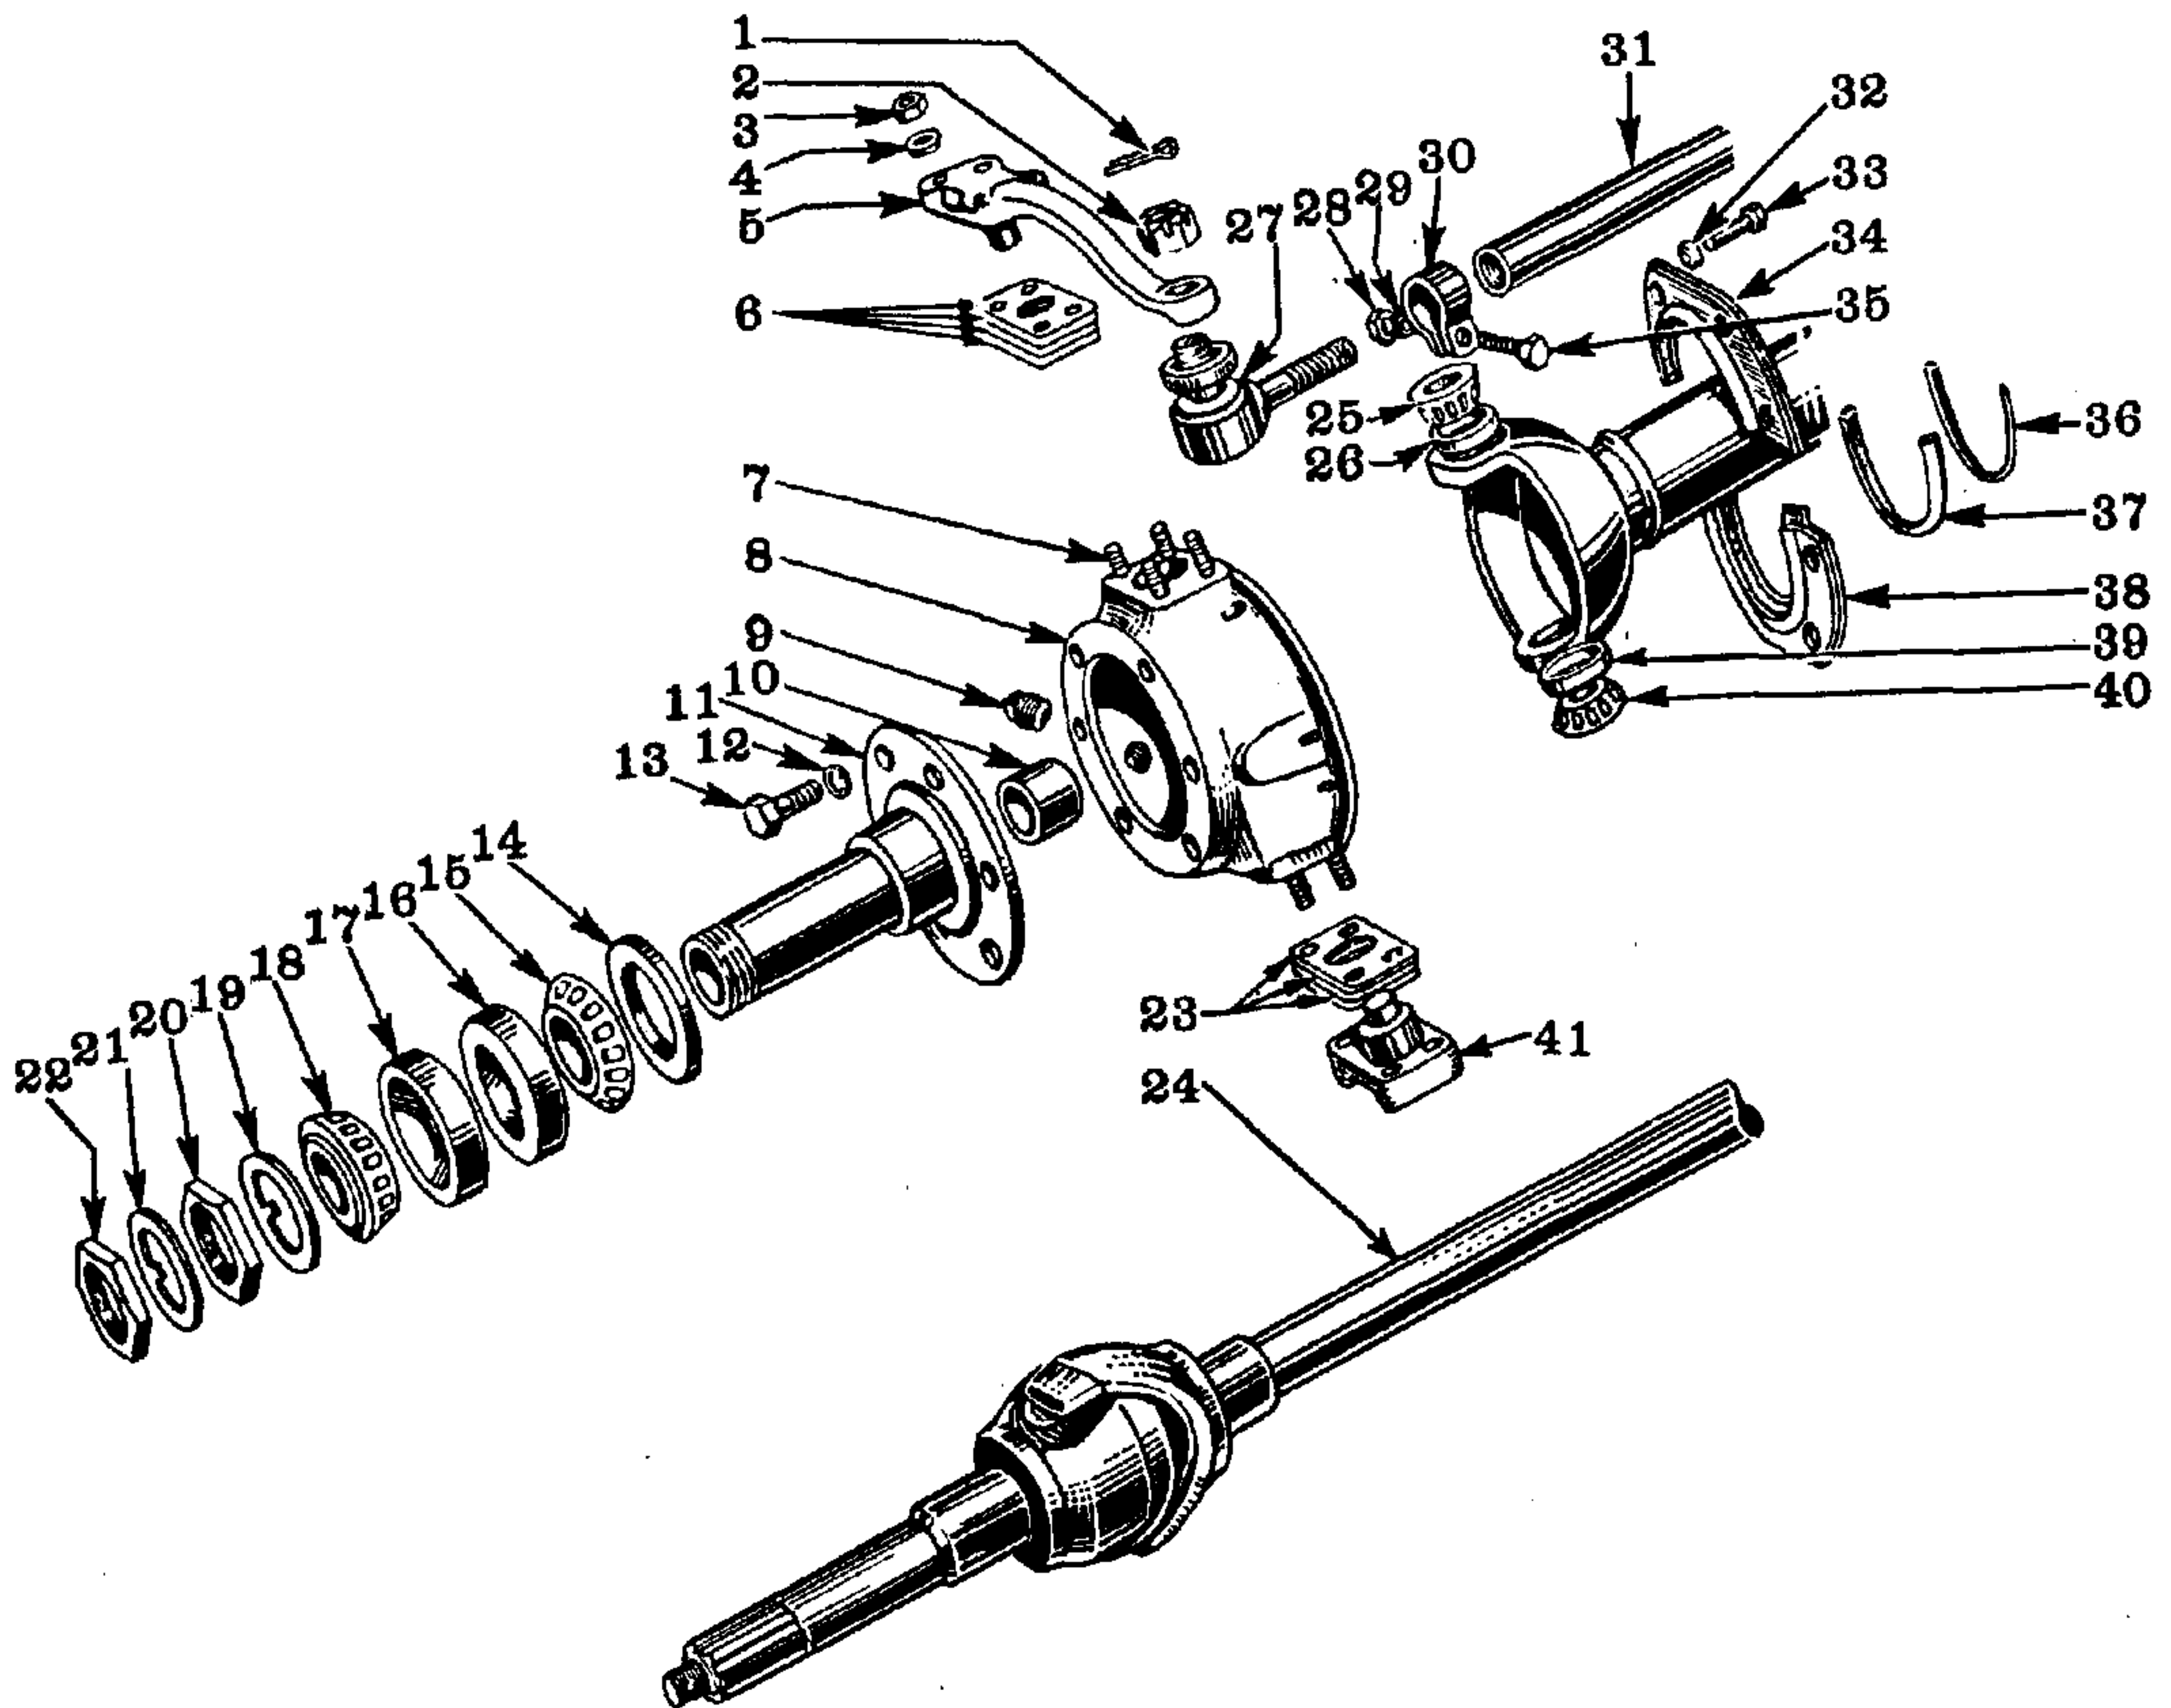

FIG. 2—FRONT AXLE, STEERING KNUCKLE AND WHEEL BEARINGS
To remove axle shaft and universal joint assembly the following operations should be performed. See Fig. 2.
6. Remove wheel bearing nuts and washers, No. 22, Fig. 2. First bend the lip on lock washer, No. 21 away from the nut with a chisel, remove the outer nut, lock washer, adjusting nut and bearing lock washer, Fig. 4. Wrench is furnished in tool kit.
8. Remove brake tube and brake backing plate screws, No. 13, Fig. 2.